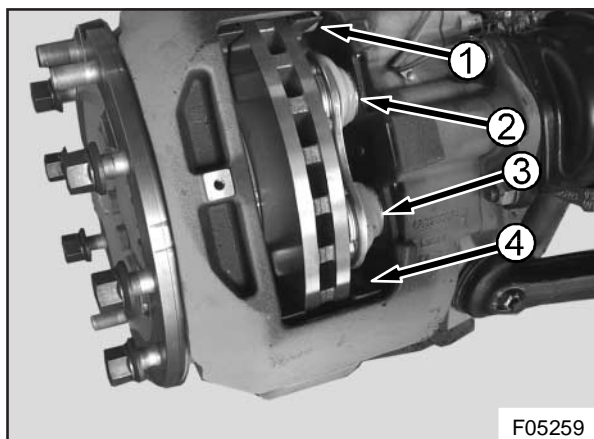

Figure 22 : Rubber boots
10. Turn the adjuster stem of a right-hand brake to the right and of a left-hand brake to the left, until the rubber boots of the tappets are visible (see Figure 22). Check the rubber boots (2 and 3) of the tappets and the rubber boots (1 and 4) of the guide sleeves for damage. Replace them, if necessary.